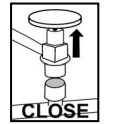

Fig 5.
3. For recovery, close High Side shutoff valve on red service hose (See Fig 5.)